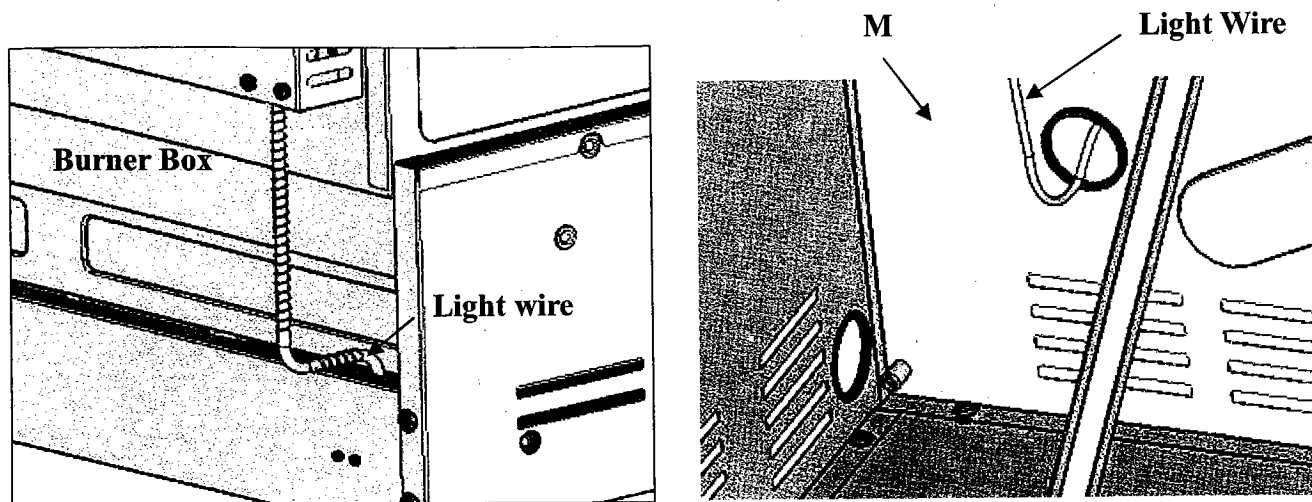

Fig. 16
- c. Insert the 1/4-20 x 5/8-in screws into the two pre-drilled holes on each side of the burner box (K), do not fully tighten screws until all screws have been installed.
- d. Route the light wire from the burner box through the bottom of the burner box into the cabinet. Then pull the wire through the opening in the rear panel. (See Fig.16)